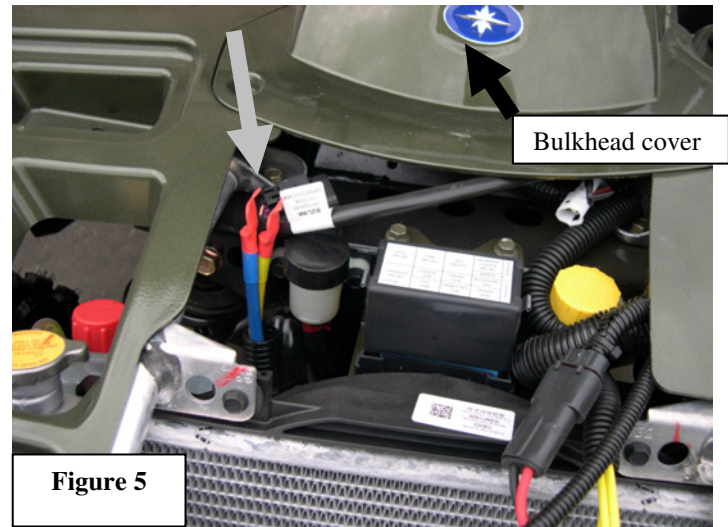

Figure 5
5. Remove your front rack by releasing Polaris's Quick attaches and locate the winch wires located under the rack as shown in Figure 5.
11. Remove the Front Bulkhead Access Cover, located just below the headlight pod as shown in Figure 5.